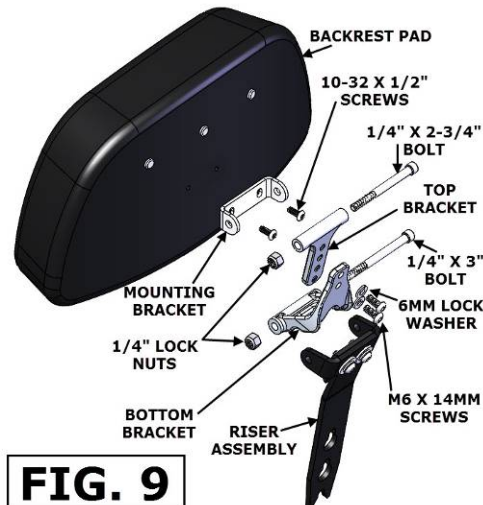

FIG. 9
- ASSEMBLE THE REST OF THE BACKREST TO THE RISER ASSEMBLY AS SHOWN IN **FIG. 9**. **NOTE: YOU WILL HAVE SOME EXTRA HARDWARE INCLUDED IN THIS KIT THAT YOU DO NOT USE FOR THIS APPLICATION.**